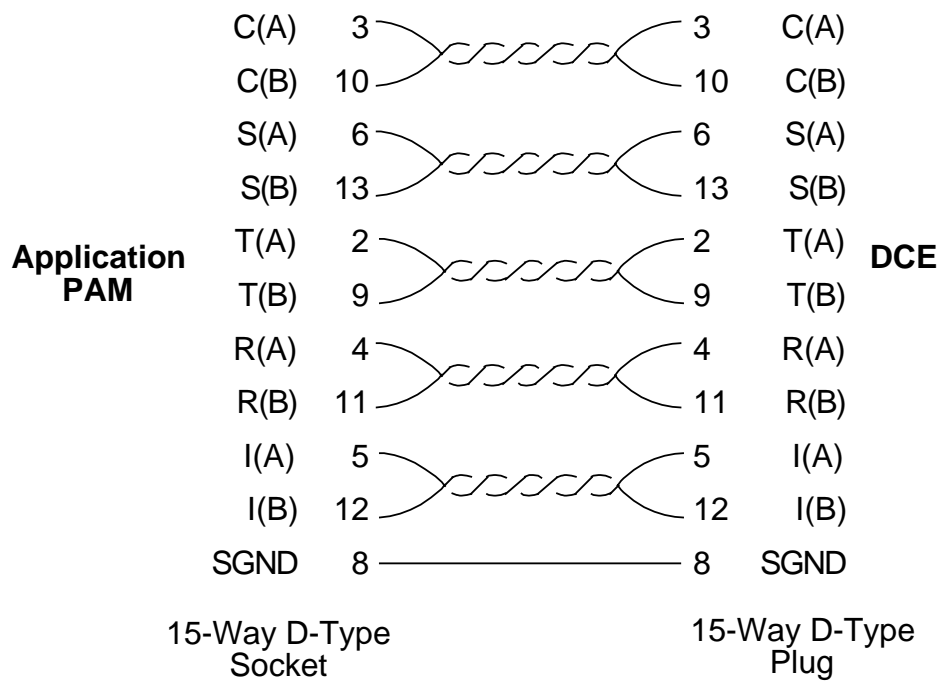

Figure B-7 Composite to X.21 DCE Cable
- (6) Application Module to X.21 DCE. Use cable X890-410611, Figure B-7.